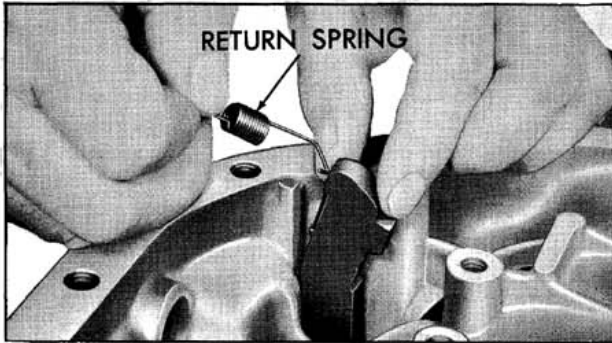

Fig. 6-64 Removing Parking Pawl Return Spring
- h. Remove parking pawl return spring. (Fig. 6-64)